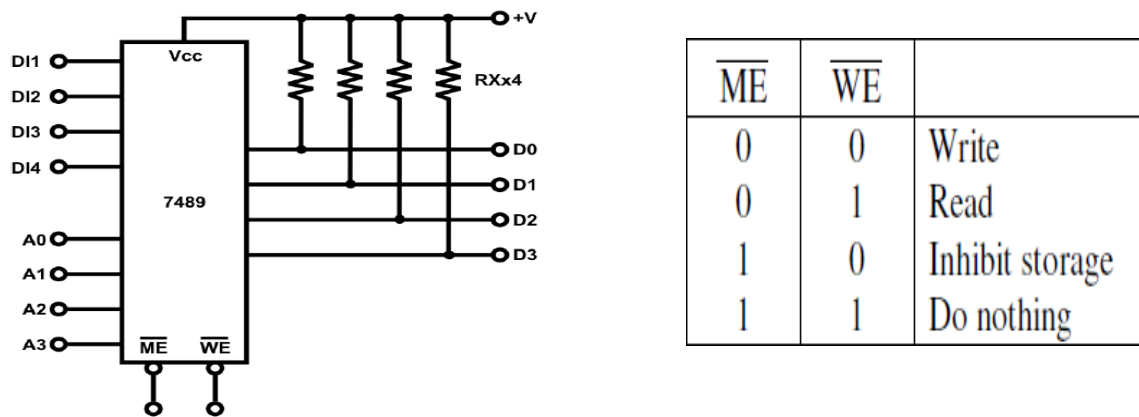

Figure 7.4: Block diagram of  $16 \times 4$  RAM chip.
Figure 7.4 shows the 7489 IC, which is a  $16 \times 4$  memory with 64 memory capacities. Also, its function table.
- When  $\overline{ME}' = 0$  and  $\overline{WE}' = 0$ , the memory is enabled, and the input process starts. The input and output terminals are separated. The output terminals are open-collector type so resistors " $R_{X \times 4}$ " must be added to the supply voltage. Since the output terminal of 7489 is open-collector type, the outputs can be connected in parallel, as shown in Figure 7.4. The operating sequence will be controlled by  $\overline{ME}'$  and  $\overline{WE}'$ .